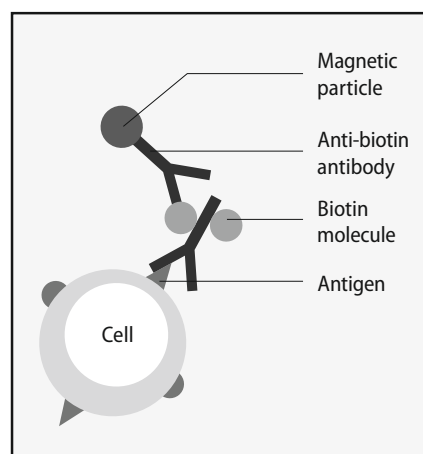

Figure 3.2: Flexible Labeling System
- Indirectly in a two-step labeling procedure called Flexible Labeling System. In a first step cells are labeled with antigen-specific antibodies conjugated to biotin. In a second step these antibodies are labeled with biotin-specific antibodies conjugated to super-paramagnetic iron-dextran beads (see Figure 3.2).